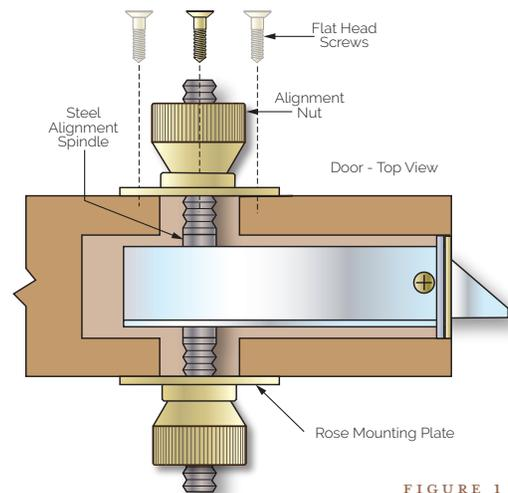

FIGURE 1
2. Install the Mortise Lock with the top side up. Verify that the striking mechanism's tapered end depresses properly as the door closes (Figure 1).
4. Slide the Steel Alignment Spindle from the Alignment Tool Assembly through the Mortise Lock (Figure 1).